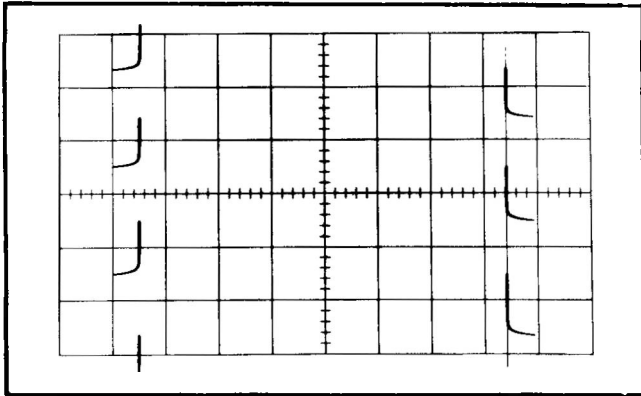

Fig. 5-16. Distortion obtained when C503C is misadjusted.
- Adjust C503C (see Fig. 5-2) for optimum square-wave response. (Fig. 5-16 shows one form of distortion if C503C is misadjusted.) The display should exhibit no more than 5% hook on the positive-going or negative-going portion of the calibrator waveform. When C503C is properly adjusted, the calibrator waveform should be similar to the display shown in Fig. 5-15a.